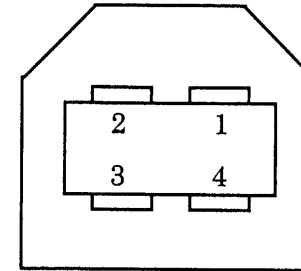

Figure 1-4. Receptacle (Series B)
- Connector: Receptacle (Series B) (Figure 1-4 and Table1-4)